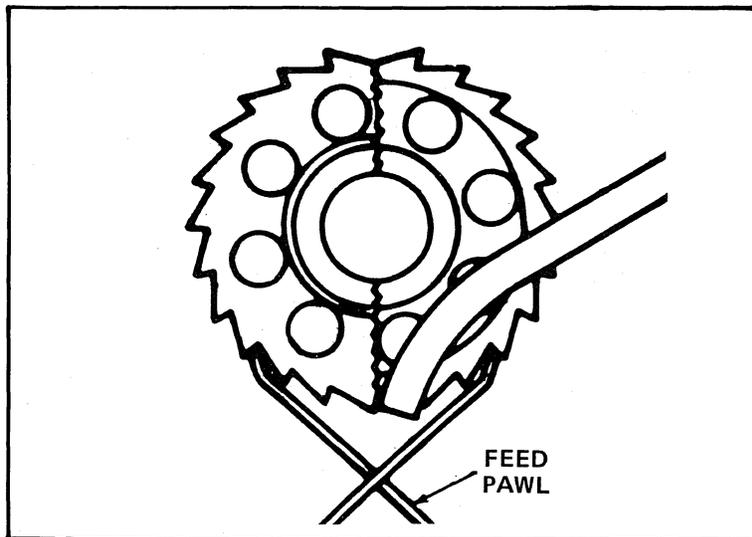

Figure 6-6 Feed Pawl Adjustment
- (1) Check position of feed pawls in relation to the ratchet. The pawls should lay into the third notch of the ratchet from the bottom center position.
- (2) The pawl must be adjusted so that it butts against the ratchet tooth. It must also be free to re-engage with the tooth when displaced from the root of the ratchet tooth. See Figure 6-6.